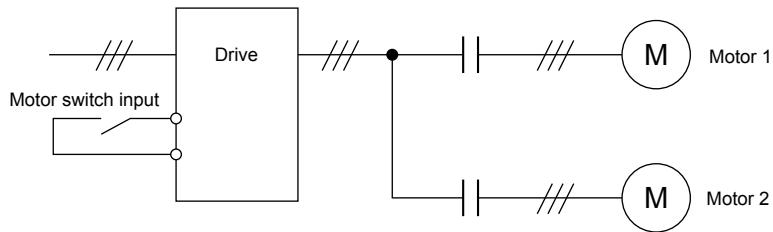

**Figure 5.50 Fast-stop Sequence**
**Figure 5.50** shows an operation example of Fast-stop.